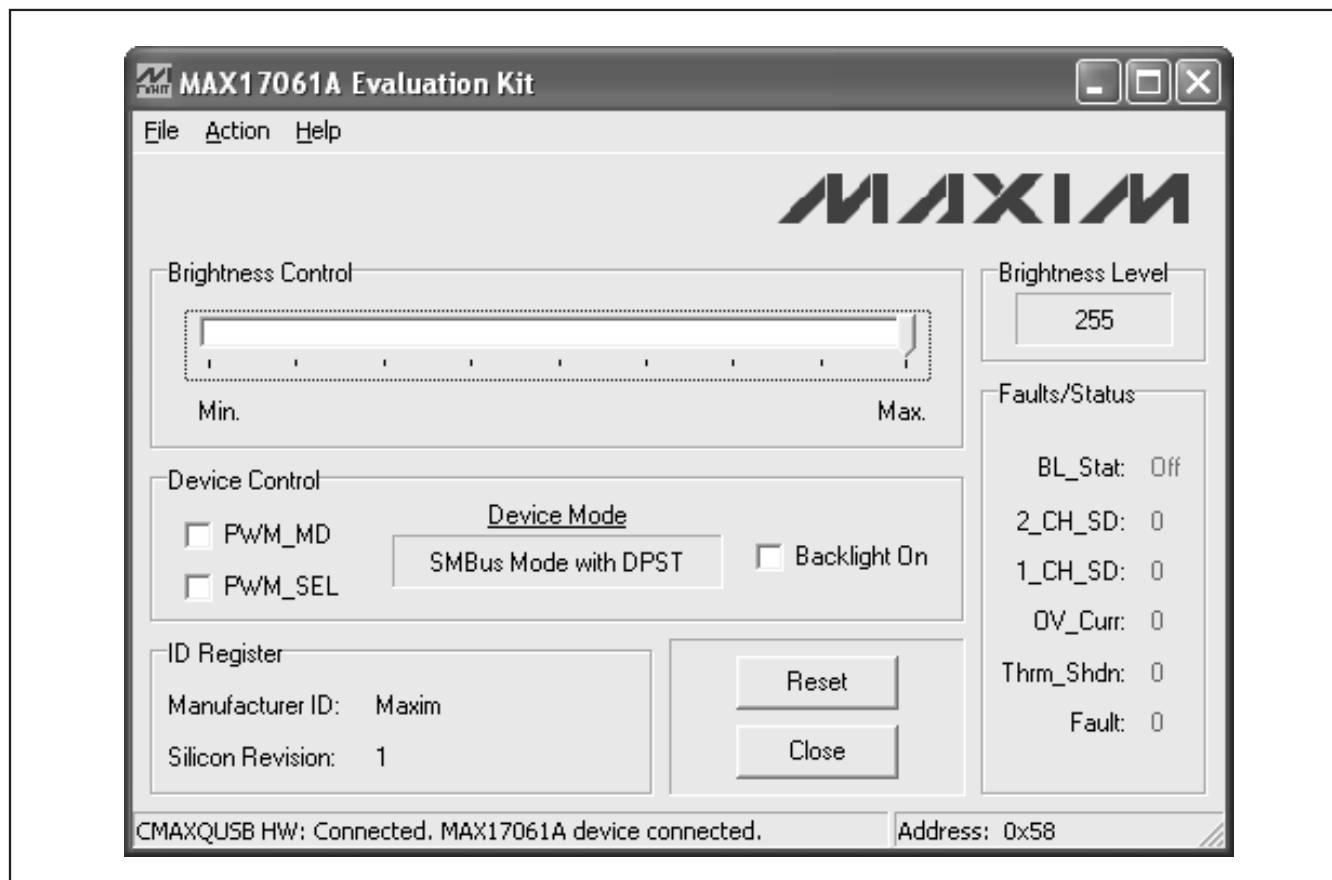

Figure 1. MAX17061A EV Kit Software Main Window
- 11) Normal device operation is verified when **CMAXQUSB HW: Connected. MAX17061A device connected.** is displayed at the bottom left of the MAX17061A EV kit window (Figure 1).
The program's main window (Figure 1) is navigated by using a mouse or a combination of the keyboard's tab and arrow keys. The MAX17061A EV kit software provides controls for software-configurable features, such as **Brightness Control**, **Device Control**, **Faults/Status** detection, and **Manufacturer ID** and **Silicon Revision** detection. Changes to the controls result in a write operation that updates the appropriate registers of the MAX17061A. A status box is provided at the bottom of the program's main window and is used to verify command module and device connectivity. A **Device Search** option is located under the **Action** menu bar should the user want to switch from demo mode to normal operation.
There are two methods for communicating with the MAX17061A, through the normal user interface (Figure 1), or through the SMBus commands available by selecting the **Interface Diagnostic Window** menu item